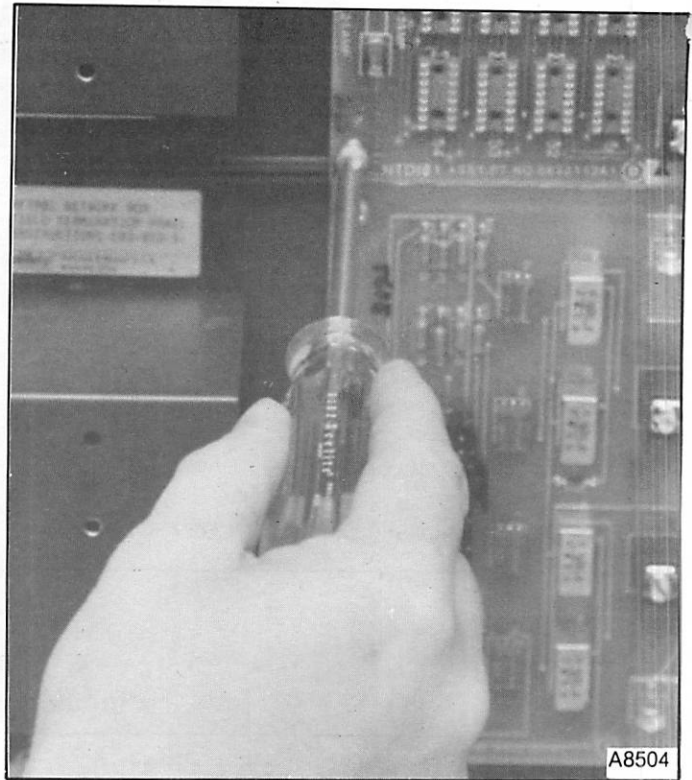

FIGURE 21 — Threading Screws to Secure TDI01.
e. Thread screws through panel mounting slots ("stand-off") and "tabs" (see Figure 21).